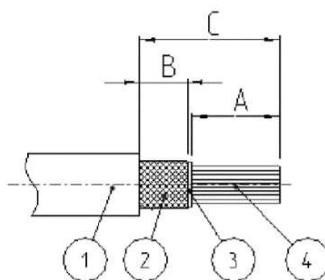

Figure 5 Cutting cable to length
Step 2/步骤二 Strip and remove outer sheath, screening braid (if present screening foil), inner sheath and conductor from the end as shown in figure 5.
如图5所示，切开并去除外绝缘皮，屏蔽编织物（如果存在屏蔽箔），内绝缘皮和导体。剥线尺寸如表8&9&10所示